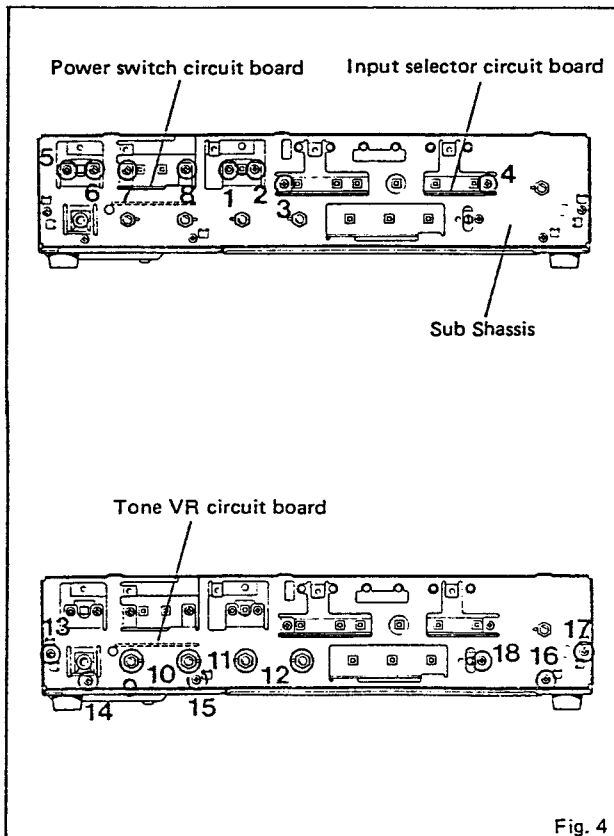

Fig. 4
Remove screws ① through ④ in Fig. 4 and then remove the input selector circuit board.
Remove screws ⑤ through ⑧ in Fig. 4 and then remove the power switch circuit board.
- b) Remove hexagonal nuts ⑨ and ⑩ in Fig. 4. Remove the tone VR circuit board and then replace the VR.
- b) Remove hexagonal nuts ⑪ and ⑫ in Fig. 4.
- c) Remove screws ⑬ through ⑱ in Fig. 4 and then remove the sub shassis.